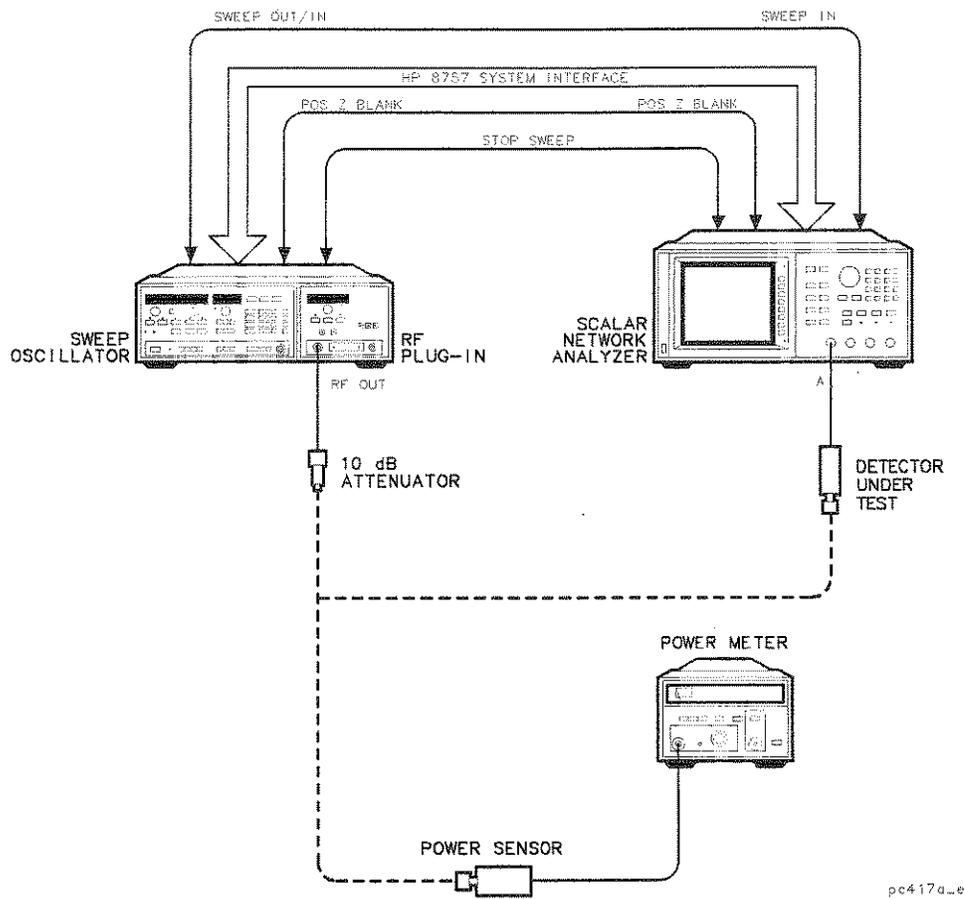

Figure 4-3. Frequency Response Measurement Setup
1. Connect the equipment as shown in Figure 4-3, with nothing connected to the attenuated output of the source. Switch ON all equipment and allow 30 minutes for warm-up.